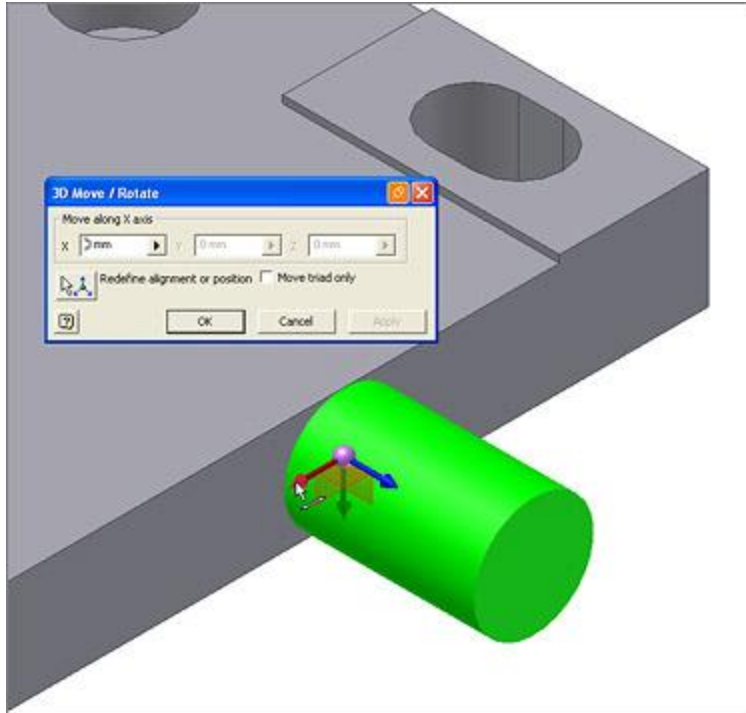

Figure 6. Use Triad Move mode to use specific inputs to relocate a feature.
3. Right-click to launch Move Feature, and choose a method for moving a feature (figure 6).
- Select OK to commit to the changes and move the feature (figure 6).